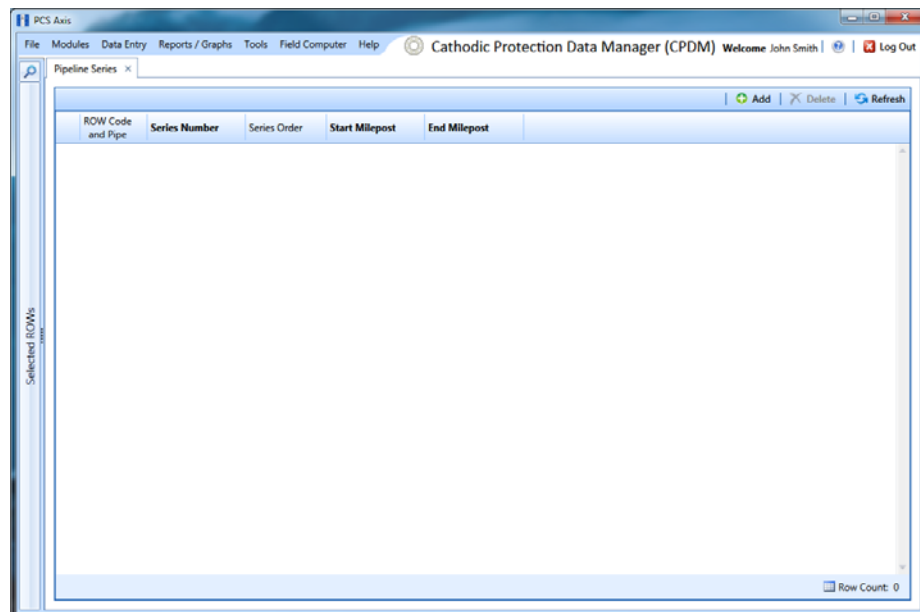

Figure 2-38. Pipeline Series
- 3 Click **Data Entry > Pipeline Series** to open the *Pipeline Series* window (Figure 2-38).